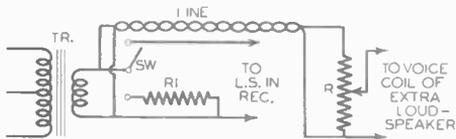
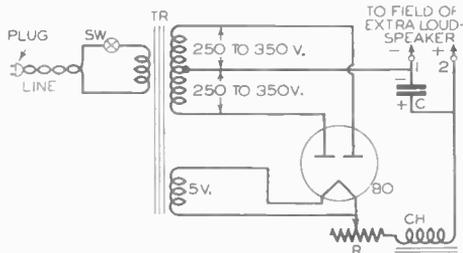

FIG. 4. Circuit for connecting a low-impedance reproducing device (dynamic loudspeaker without matching transformer) to a radio receiver.
FIG. 5. Power supply circuit suitable for providing field excitation for an extension electrodynamic loudspeaker.
*Connecting a Microphone to an Oscillator.* A double-button carbon microphone will deliver sufficient audio power to modulate a phonograph oscillator. In addition to this microphone, you will need one microphone-to-grid matching transformer designed for a double-button microphone, one 250,000 ohm potentiometer, one 4.5 volt battery, one S.P.S.T. switch, and suitable lengths of one-wire and three-wire shielded cable. The connections are shown in Fig. 4; this diagram also shows how both a microphone and a crystal pick-up may be connected permanently to the phonograph oscillator. Both units are in series, feeding into a single-wire shielded cable (not over 10 feet
The microphone and phono pick-up circuits for a direct connection are exactly the same as is shown in Fig. 4 for the phonograph oscillator. Leads 1 and 2 of the shielded one-wire cable are connected to some section of the detector circuit rather than to the phonograph oscillator terminals; methods of making these connections for four different typical detector circuits are illustrated in Fig. 5, and will now be taken up.
FIG. 4. With this connection, both phonograph and microphone may be used simultaneously and controlled independently. Music can be used as a background for an announcement, and increased in volume as the mike is faded out, just as in large public address systems. If the microphone connection is not desired, connect together points *M* and *N*.
original circuit is as shown by the light lines in Fig. 5*A*, with points *A* and *B* connected together. The following additional parts are required: One double-pole, double-throw toggle or rotary switch (*SW*) which can be mounted on the receiver front panel; one .001 mfd. mica condenser (*C2*); one resistor (*R2*)—3,000 ohms for a triode detector and 1,000 ohms for a screen grid
tube. Break the ground lead to coil  $L2$  between points  $A$  and  $B$ , and insert condenser  $C2$  as shown in Fig. 5A. Connect switch  $SW$  and resistor  $R2$ , then connect leads 1 and 2 in Fig. 4 to points 1 and 2 in Fig. 5A. When switch  $SW$  is at the right, the original circuit will be restored and normal reception secured; when switch  $SW$  is at the left, resistor  $R2$  will change the bias sufficiently to convert the detector into an amplifier, blocking radio reception (it is best to detune the receiver), and allowing the phono pick-
FIG. 5. Four typical detector circuits; changes required to make a direct pick-up connection are indicated in heavy lines. The leads from the pick-up device should go to points 1 and 2.
*How to Connect Low-Impedance Units.* When a dynamic loudspeaker without a matching transformer is to be used as an extension loudspeaker, it should be connected as shown in Fig. 4. Potentiometer  $R$  is a 30-ohm wire-wound unit rated at 10 watts, mounted on the front of the cabinet for the extra loudspeaker. The line from this extension loudspeaker may be a 2-wire twisted cable up to 100 feet long; No. 18 flexible twisted lamp cord is best. This line is connected to the secondary terminals of the receiver output transformer.
annoying. To provide a means for silencing the local loudspeaker without having to rush to the extension loudspeaker to reduce volume, a 10-ohm, 10-watt resistor  $R1$  and single-pole, double-throw switch  $SW$  may be connected as shown in Fig. 4. Resistor  $R1$  acts as a dummy load which replaces and duplicates the receiver loudspeaker when this loudspeaker is to be silenced. Resistor  $R1$  also serves to protect the extension loudspeaker if it has a low power-handling rating and the receiver is capable of delivering high power output.
a baseboard or on the original chassis after stripping off all other parts. Connect the parts as shown in Fig. 5. The only additional part required will be a rheostat  $R$ , a 2,500-ohm wire-wound resistor rated at 25 watts, with an adjustable tap or slider; this serves to control the amount of power which is fed to the loudspeaker field coil. Set  $R$  to have maximum resistance, connect a D.C. voltmeter across terminals 1 and 2, then turn on the power pack. Adjust  $R$  until the D.C. voltmeter indicates the desired output voltage. This voltage will depend upon the power requirement of the field coil (a normal value is 7.5 watts), and upon the resistance of the field coil (measure this with an ohmmeter). The correct D.C. output voltages for various field coil resistances are: 500 ohms—60 volts; 1,000 ohms—85 volts; 1,500 ohms—115 volts; 2,000 ohms—125 volts; 3,000 ohms—150 volts; 4,000 ohms—170 volts; 5,000 ohms—195 volts; 6,000 ohms—220 volts.